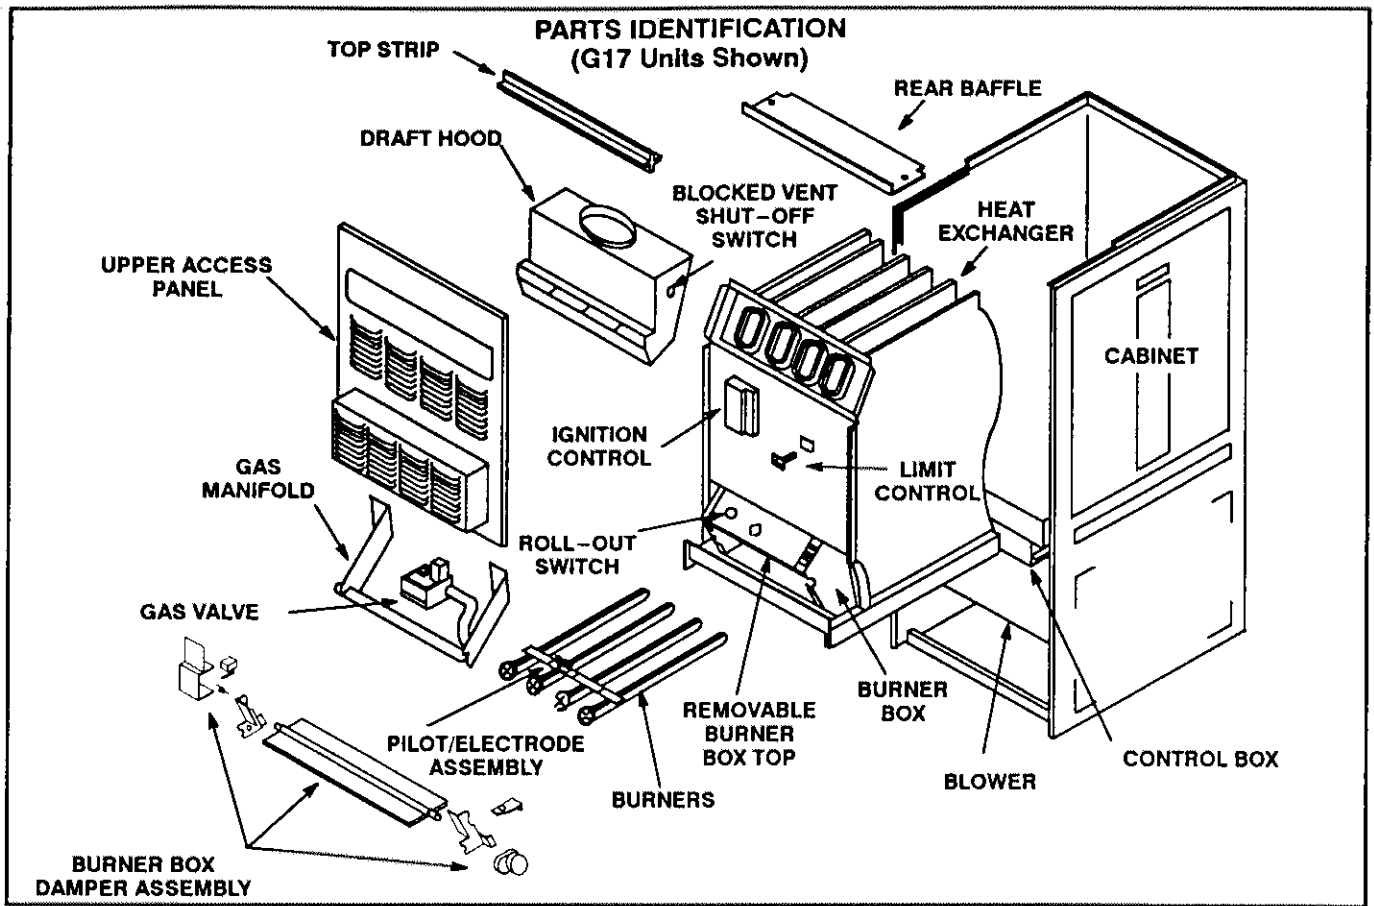

FIGURE 29
- 1- Turn off both electrical and gas power supplies to furnace. Refer to figures 29 and 30 during disassembly and reassembly procedures.